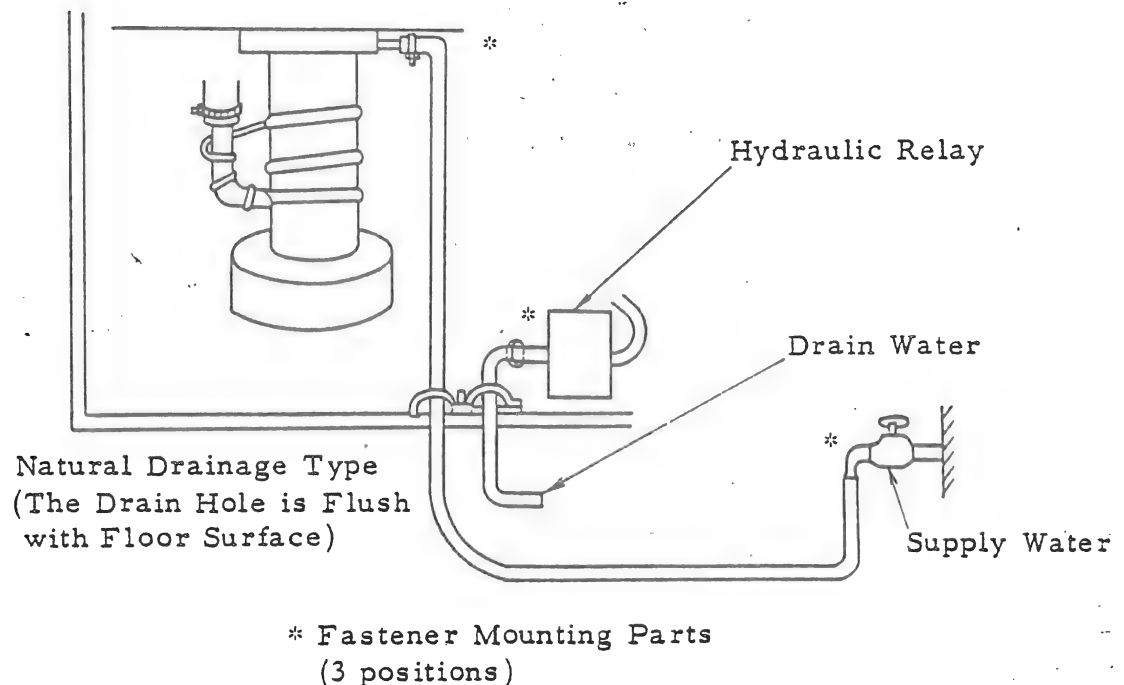

Fig. 3-9 Installation of Water Supply Hoses
3-3-6 Mounting of Water Supply Hoses (See Fig. 3-9.)
- (1) Connect the water supply hoses as shown in Fig. 3-9. It is recommended for facilitating the insertion of the water supply hoses to the city water faucet to apply a thin coat of vacuum grease to the faucet.